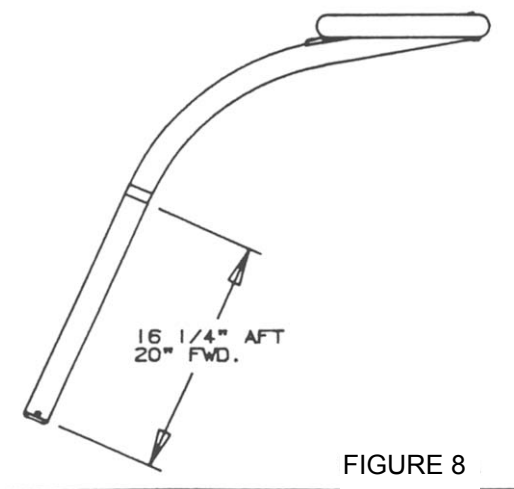

FIGURE 8
8.2 Mark the legs with tape as shown. These points indicate full and complete insertion of the legs into the hull. (FIGURE 8)